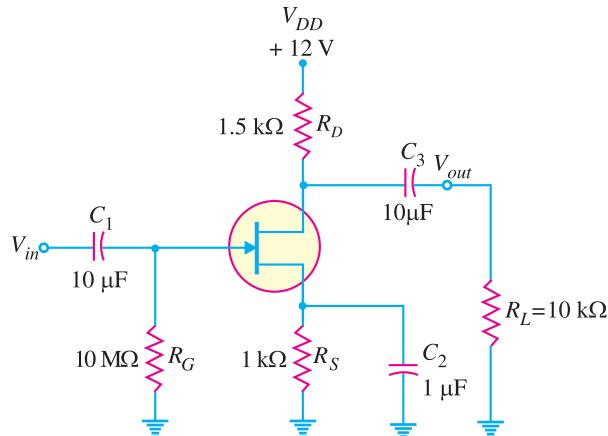

Fig. 19.68
10. If a 50 mV r.m.s. input signal is applied to the amplifier in Fig. 19.68, what is the peak-to-peak output voltage? Given that  $g_m = 5000 \mu\text{S}$ . [920 mV]